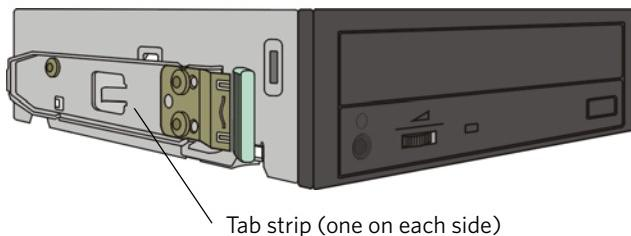

Figure 34: Tab strips on the DVD-RW drive
1. Install the tab strips to the new DVD-RW drive that you removed from the old DVD-RW drive. See Figure 34.